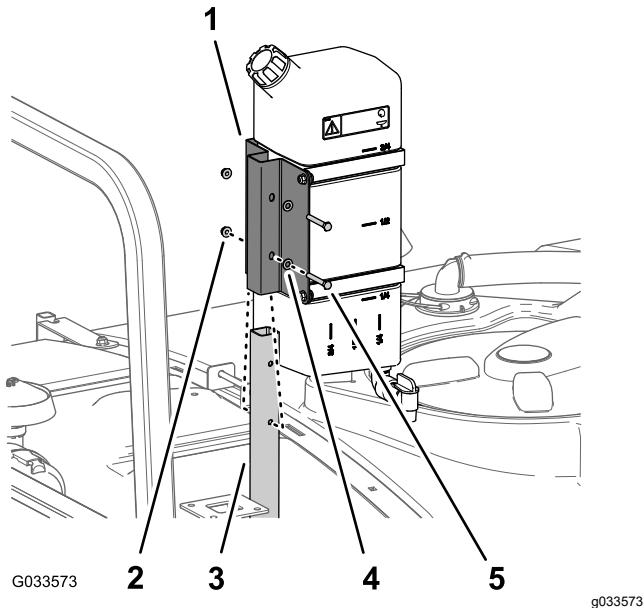

Figure 47
1. Assemble the freshwater tank and mount onto the support tube with the 2 bolts (5/16 x 2-1/4 inches) and 2 flange locknuts (5/16 inch) as shown in Figure 47.